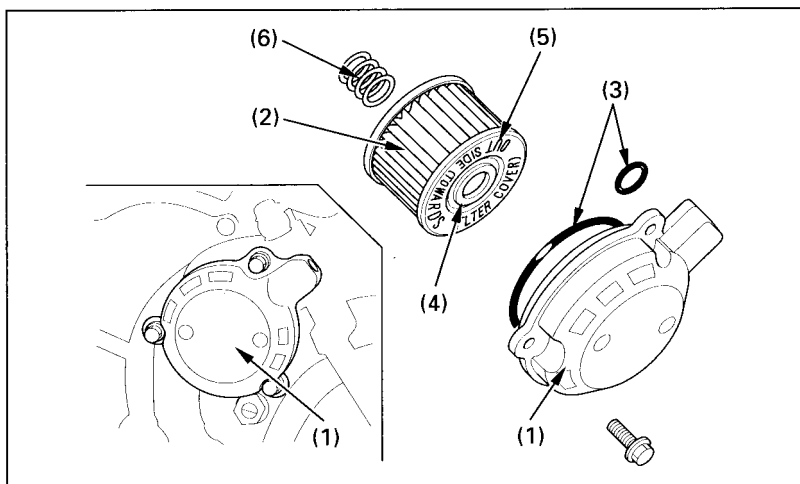

Fig. 4-13 (1) Oil filter cover
(1) Oil drain plug
3. Remove the oil filter cover (Fig. 4-13) by removing the bolts. Let the remaining oil drain out. Discard the oil filter (2).
4. Check that the oil filter cover O-rings (3) are in good condition and then install a new oil filter. Use only the Honda genuine oil filter or a filter of equivalent quality specified for your model. Using the wrong Honda filter or a non-Honda filter which is not of equivalent quality may cause engine damage.